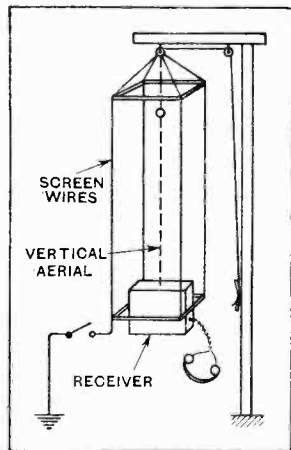
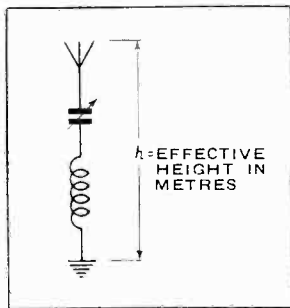
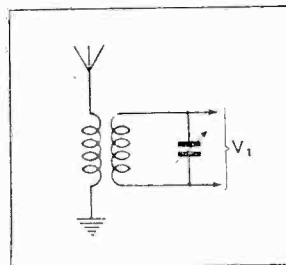

Fig. 3.—The adjustable wire screening cage surrounding a vertical aerial which was used in experiments to demonstrate the screening effect of masts.
Fig. 1.—Simple tuned circuit, possessing moderately flat tuning and suitable for use in a receiver giving good quality local reception.
Fig. 2.—Owing to aerial resistance, this circuit may be reasonably flatly tuned.
In the case of receiving aerials these facts may be simply demonstrated by arranging two aerials in the manner shown in Fig. 2. With aerials of 20 to 40 feet in height set at about 3 or 4 feet apart it will be found that the signals from, say, 2LO received on one of the wires will be unaffected in strength by the earthing or tuning of the other wire. When the distance between the wires is decreased to less than a foot, the earthing of one wire in the untuned condition produces a definite decrease in the signal intensity received on the other wire. As the height of the screening wire is increased relative to that of the receiving aerial, the screening effect becomes more and more marked. The reduction in signal strength is also considerably increased by using a cage of several screening wires. For example, in an experiment carried out some two or three years ago a vertical aerial 40 feet high was erected inside a cage formed of vertical wires fixed at the top and bottom to the sides of a wooden frame five feet square erected round the aerial in the manner shown in Fig. 3. Both the aerial and cage were supported by pulley arrangements, so that either could be raised or lowered at will. With the cage formed of four wires only and hauled up so that it projected about two feet above the top of the aerial the screening effect
32 equally spaced along the sides of the five-foot square frame, sketched in Fig. 3. In this condition the screen was very effective, and, when connected to earth in the untuned condition, rendered it very difficult to receive any audible signals on the enclosed vertical aerial.
start operations upon a receiver designed to operate near a main broadcasting station. There will be immunity from interference, excepting, of course, that type which emanates for neighbours, tramway systems, and the like. Moreover, the tuning of the system can be quite flat. We can, therefore, be quite content with an aerial circuit of the type shown in Fig. 1, or a variation as illustrated in Fig. 2. Now, the tuning is usually flat enough for all practical purposes. If it is not, a resistance can easily be inserted in the earth lead; Nature usually accommodates us in practice by having it there beforehand. The aerial will therefore feed to the rectifier V_1 a carrier wave accompanied by a pair of unattenuated side bands, so that all audiofrequencies will be represented in equal degree over the musical scale.
aerial circuit of the type shown in Fig. 1, or a variation as illustrated in Fig. 2. Now, the tuning is usually flat enough for all practical purposes. If it is not, a resistance can easily be inserted in the earth lead; Nature usually accommodates us in practice by having it there beforehand. The aerial will therefore feed to the rectifier V_1 a carrier wave accompanied by a pair of unattenuated side bands, so that all audiofrequencies will be represented
The reader will ask: What has this got to do with gain per stage? Well, the inductance coil tuning the aerial acts as an amplifier, since in general the voltage across it is greater than that induced in the aerial by the incoming wave. Let us turn to Fig. 3, which is equivalent to Fig. 1. The electromagnetic waves induce in the aerial a voltage $V = vh$ where v is the voltage gradient per metre down the aerial, and h is the effective electrical height of the aerial. V , the induced voltage, acts on the aerial as on an oscillatory circuit, at resonance, and sends a current (I) through it equal to
Fig. 3.—The equivalent circuit of a tuned aerial system comprising capacity (C), inductance (L) and resistance (R) in which the electromagnetic waves are represented by the alternating current generator. The voltage induced (V) is the product of the voltage gradient per metre down the aerial (v) and effective aerial height (h).